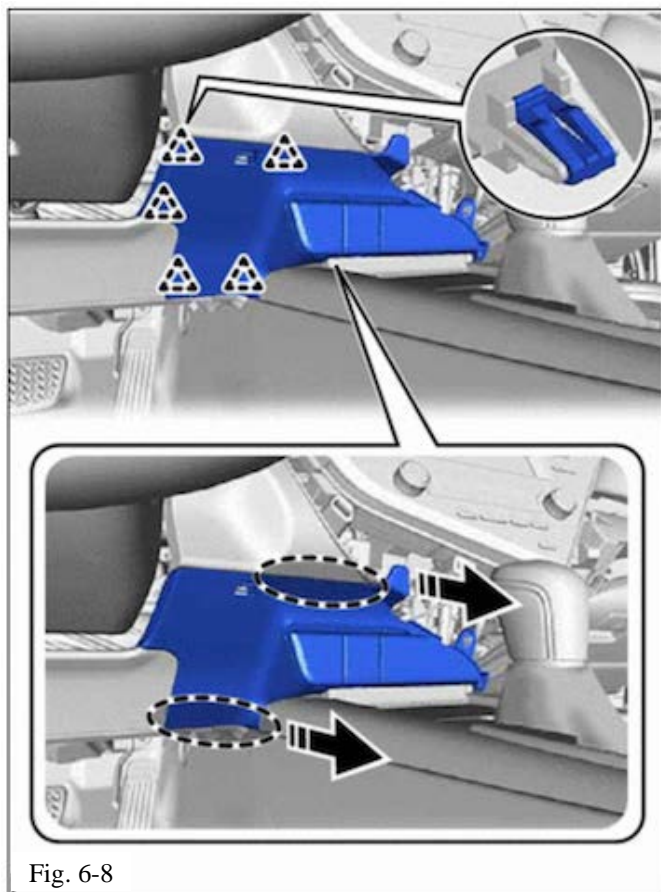

Fig. 6-8
- (2) Disengage the 5 clips as shown (Fig. 6-8).
- (3) Disengage the clamp.
- (4) Disconnect each connector.